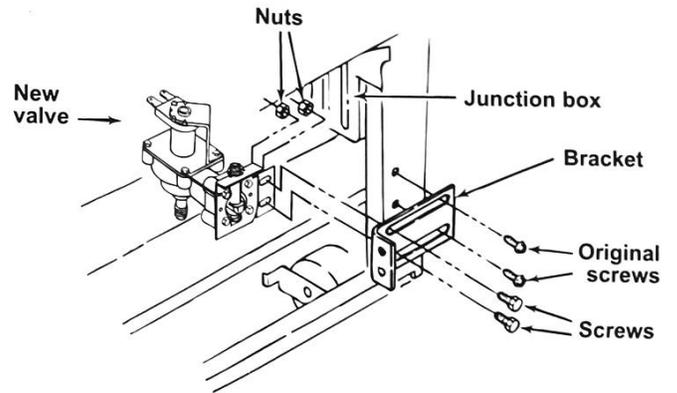

Figure 7
11. For vertical mounted valves with junction box in the lower right corner, install bracket as shown in Figure 7.
12. Install bracket with the two (2) original screws, as shown in Figure 7.
13. Install the new vertical mounted valve as shown in Figure 7 using the two nuts and screws.